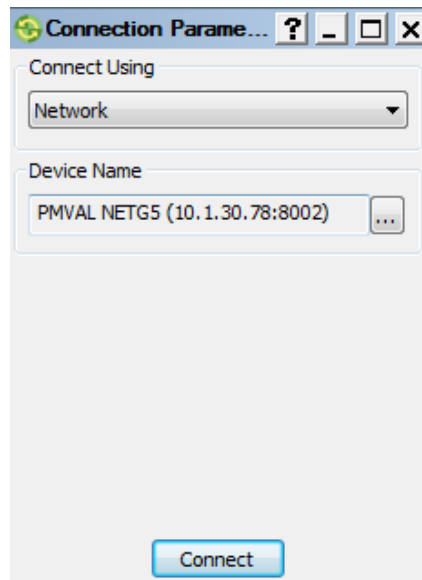

Figure 14: Connect to the Device
- Click **Connect** (Figure 14).